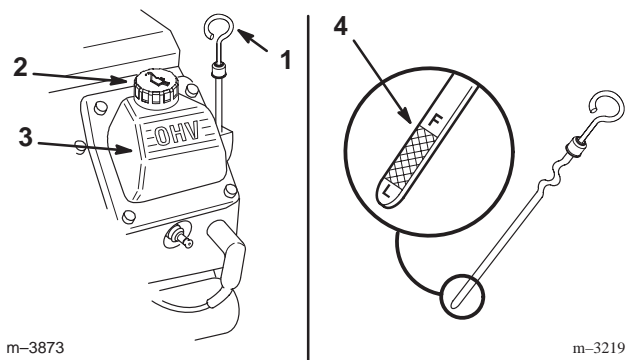

Figure 5
3. Clean around the oil dipstick (Fig. 5).
4. Pull out the dipstick and wipe the metal end clean (Fig. 5).
5. Slide the dipstick fully into the dipstick tube (Fig. 5).
7. If the oil level is low, clean around the oil filler cap and remove the cap (Fig. 5).